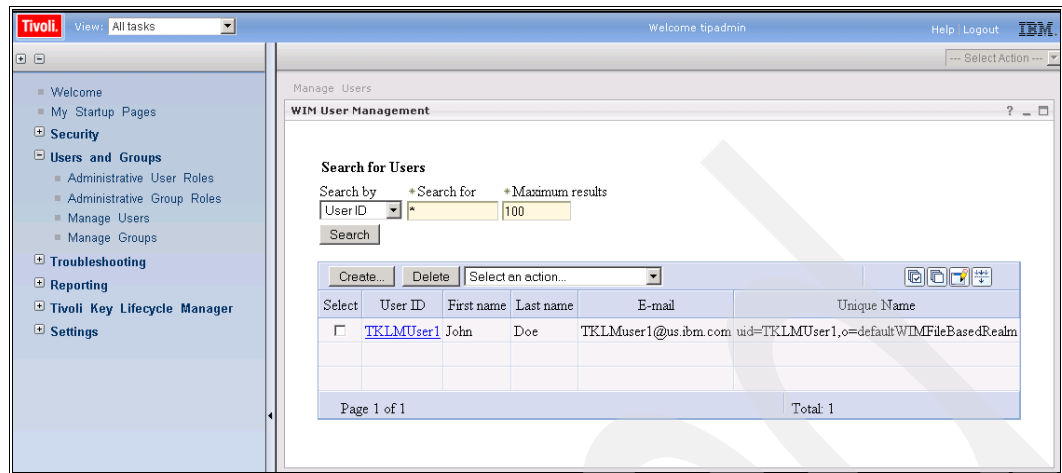

Figure 9-7 User list
7. The User List is updated with the newly created user as shown in Figure 9-7.